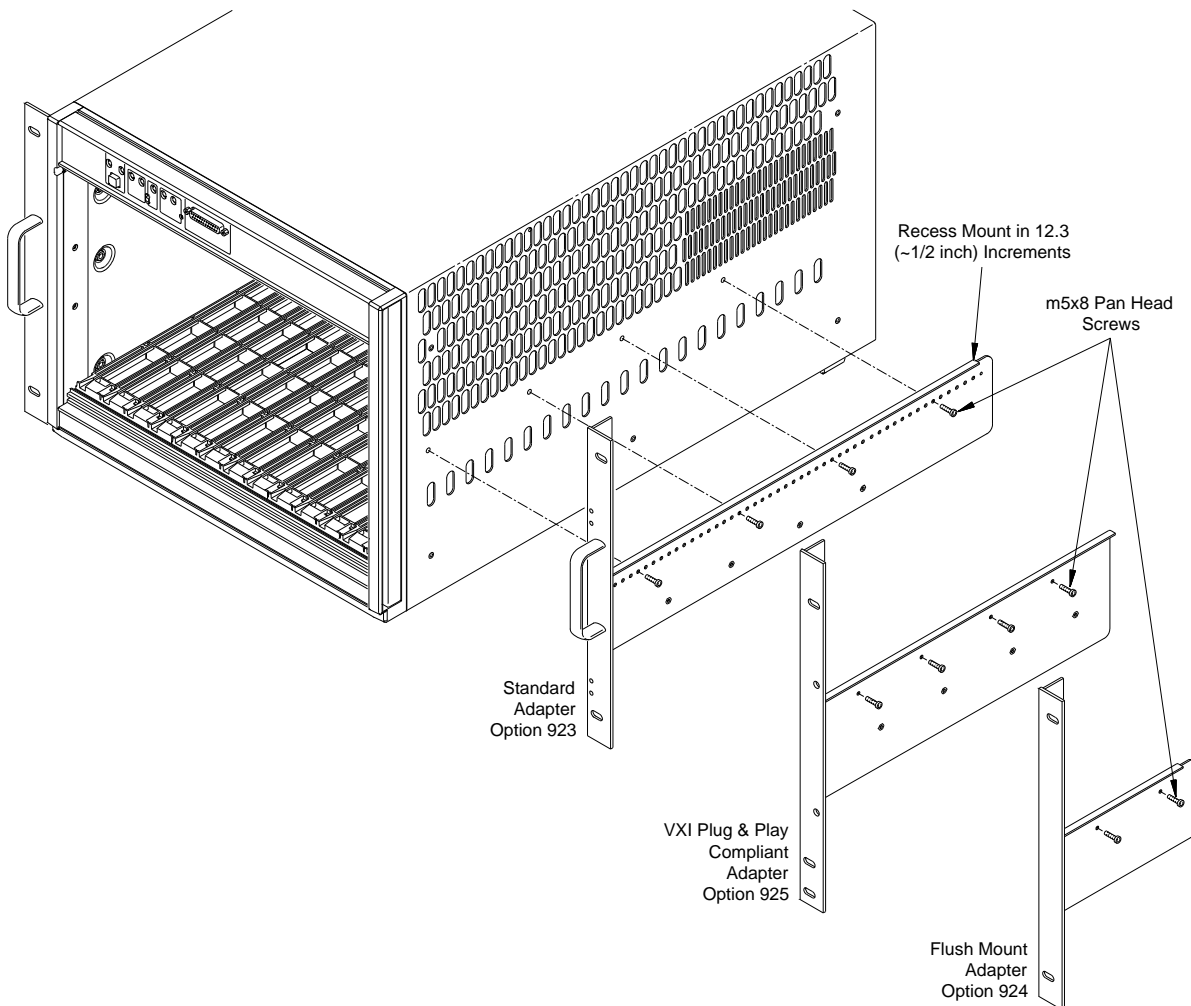

Figure 2-4. Attaching the Rack Mount Adapter to the Mainframe
5. Attach the rack mount adapters to the mainframe using the m5x8 pan head screws provided. To mount the mainframe flush with the rack front, begin with the 3rd hole from the front of the adapter (Figure 2-4).
The rack mount adapters for the VXI compliant and flush mount options are also shown in Figure 2-4.